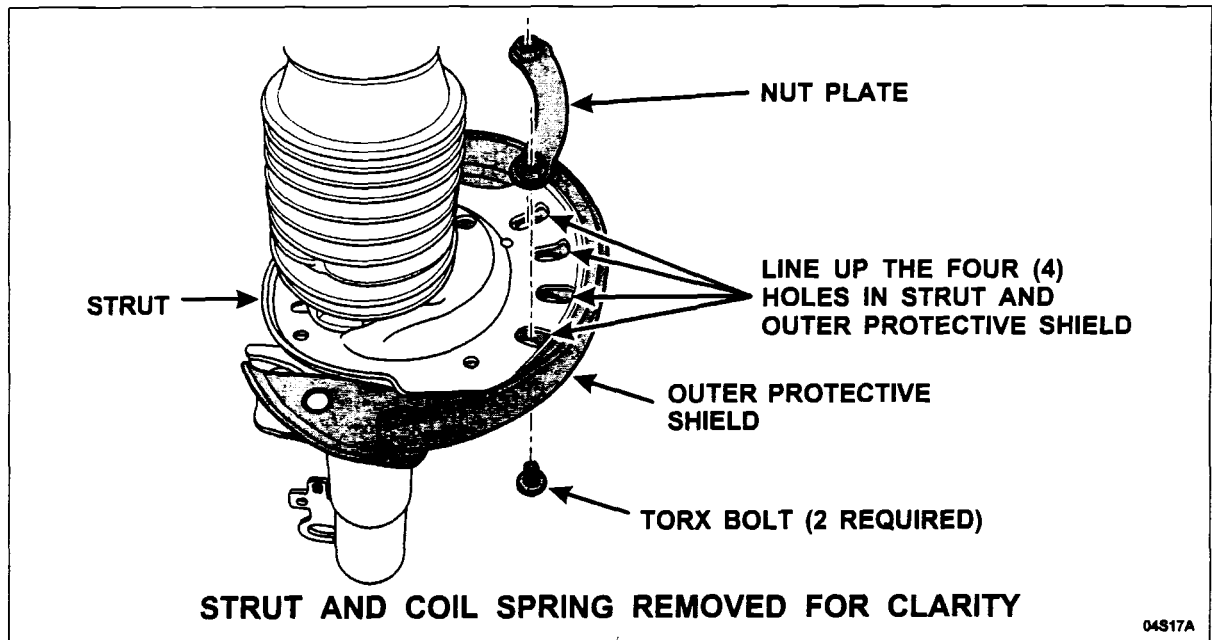

FIGURE 1
3. Position the outer protective shield over the strut assembly. Place the nut plate above the strut, line up the holes in the strut and the outer protective shield, and install the Torx bolts from below. **DO NOT** tighten the bolts to specification at this time. See Figure 1.